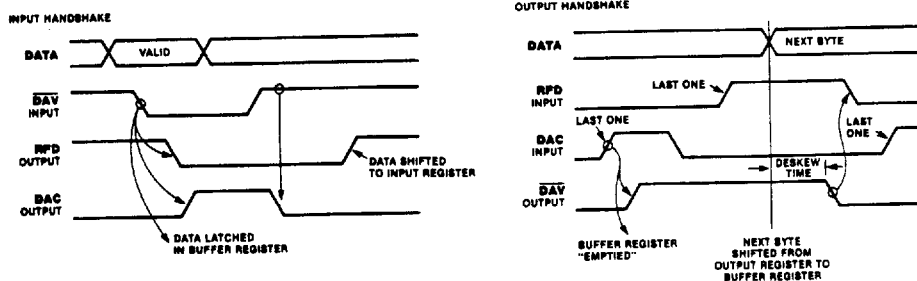

Figure 8. 3-Wire Handshake
**3-Wire Handshake.** The 3-Wire Handshake is designed for the situation in which one output port is communicating with many input ports simultaneously. It is essentially the same as the Interlocked Handshake, except that two signals are used to indicate if an input port is ready for new data or if it has accepted the present data. In the 3-Wire Handshake (Figure 8), the rising edge of one status line indicates that the port is ready for data, and the rising edge of another status line indicates that the data has been accepted. With the 3-Wire Handshake, the output lines of many input ports can be bussed together with open-drain drivers; the